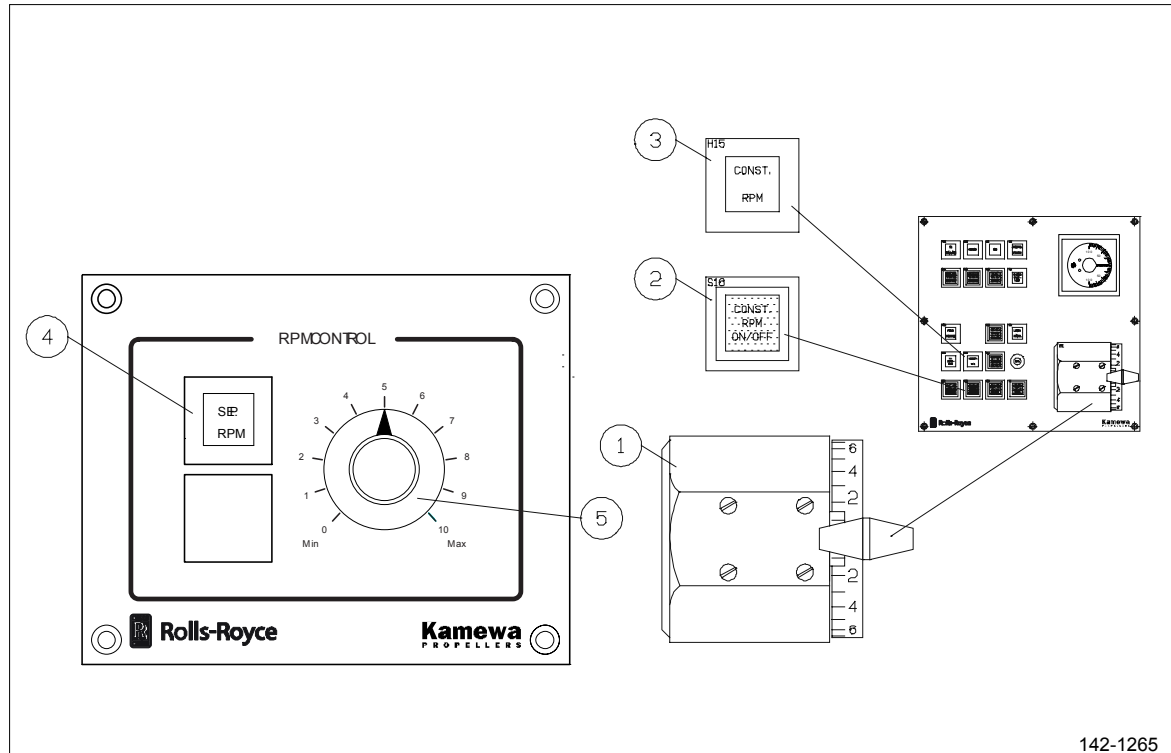

Figure 10 RPM control panel, control room.
Pos 1, Figure 10. Indexed lever 10-0-10 ahead/astern for RPM (and pitch) command, according to a pre-programmed RPM curve.
Pos 2, Figure 10. Push button for selection of constant RPM-mode ON/OFF. The constant RPM can only be activated from the bridge, and the level is pre-programmed in the software. An eventual shaft generator will interlock the constant RPM.
Pos 3, Figure 10. Indication lamp for indication of constant RPM-mode selected.
Pos 4, Figure 10. Indication lamp indicating when separate RPM mode is selected.
Pos 5, Figure 10. Indexed knob 0-10 (min - max) for RPM command according to min and max of the pre-programmed RPM curve.
When controlling from control room the RPM is controlled separately from a "separate RPM-control device", and not from the control lever (see pos 1, Figure 10). The separate RPM control device can be supplied by Kamewa or other supplier. When supplied from Kamewa (optional function) we deliver a "separate RPM control panel".